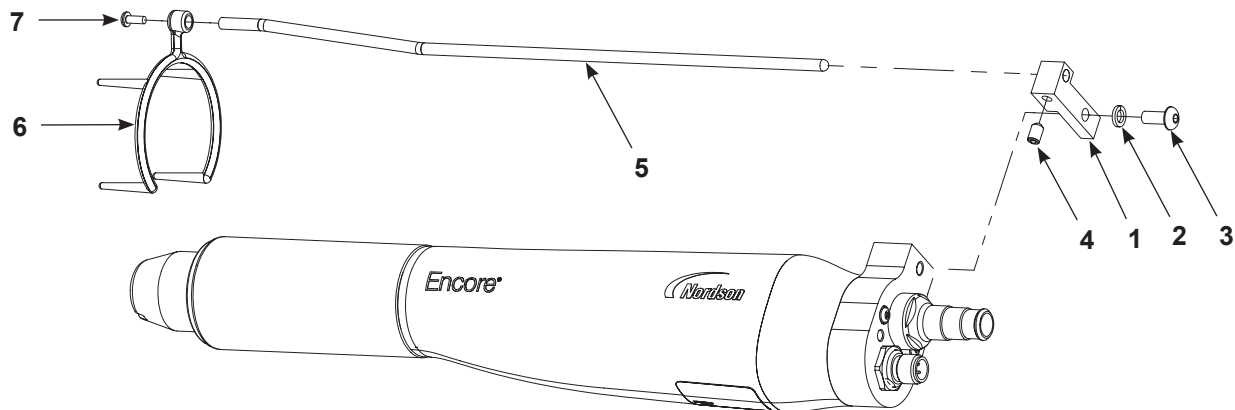

Figure 6 Ion Collector Installation - Flat Spray Nozzle Shown
1. See Figure 6. Install the mounting block (1) on the gun with the M5 lockwasher and screw (2, 3).
2. Insert the collector rod (5) into the block and secure it with the M5 x 8 set screw (4) included in the ion collector kit.
3. Slide the multi-point tip (6) onto the nozzle nut and attach it to the collector rod with the M3 screw (7).